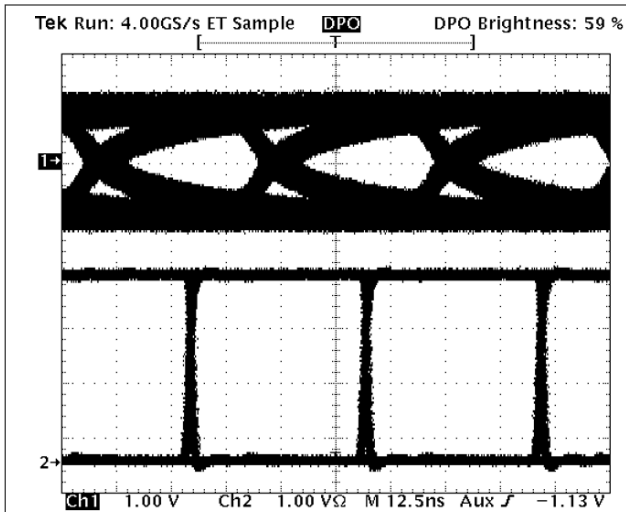

图 11-2. SN65HVD23 Receiver Performance at 25 Mbps Over 150 Meter Cable
**Figure 11-2** illustrates the benefits of integrated receiver equalization as implemented in the SN65HVD23 transceiver. In this test setup, a differential signal generator applied a signal voltage at one end of the cable, which was Belden 3105A twisted-pair shielded cable. The test signal was a pseudo-random bit stream (PRBS) of nonreturn-to-zero (NRZ) data. Channel 1 (top) shows the eye-pattern of the differential voltage at the receiver inputs (after the cable attenuation). Channel 2 (bottom) shows the output of the receiver.